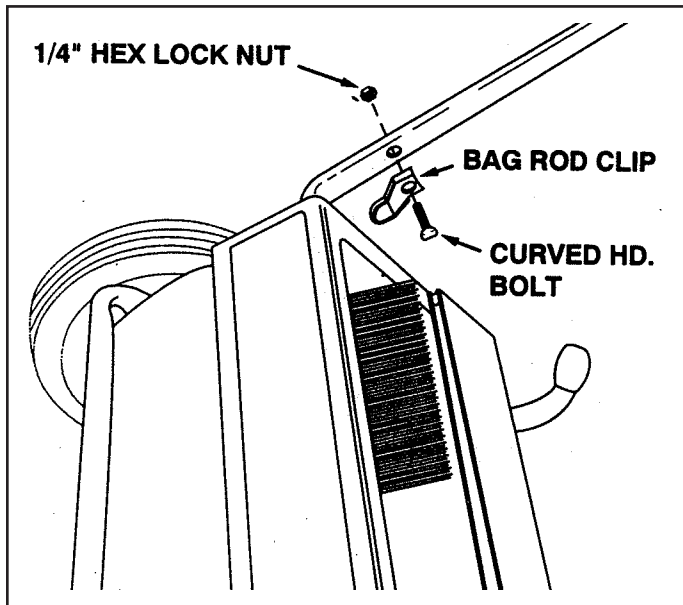

FIGURE 3
- Assemble a bag rod clip to the inside of each lower handle tube using a curved head bolt secured down against the clip using a 1/4" lock nut. The open end of the clips should face towards the sweeper housing. See figure 3.